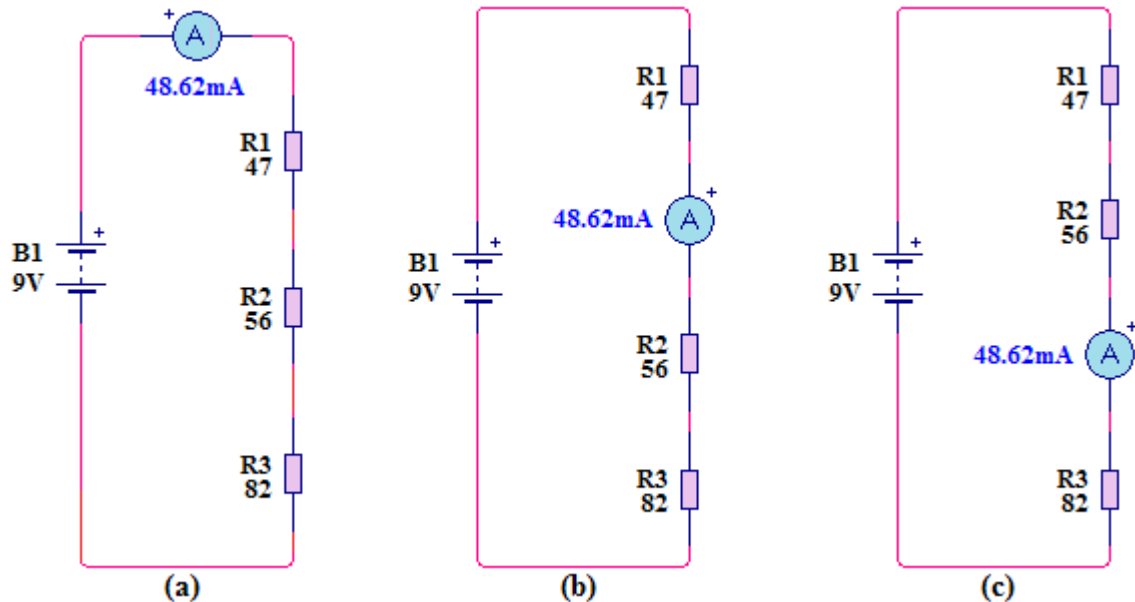

Figure 2-17: Current is the same at all points in a series circuit resistors no matter the values of each resistor.
3. Open the circuit from positive of the supply and the R_1 resistor and insert ammeter as shown in the circuit figure 2-17 part (a). The positive lead of ammeter to the positive of
5. Connect the circuit as shown in schematic circuit figure 2-17 part (b).
9. Connect the circuit as shown in schematic circuit figure 2-17 part (c).